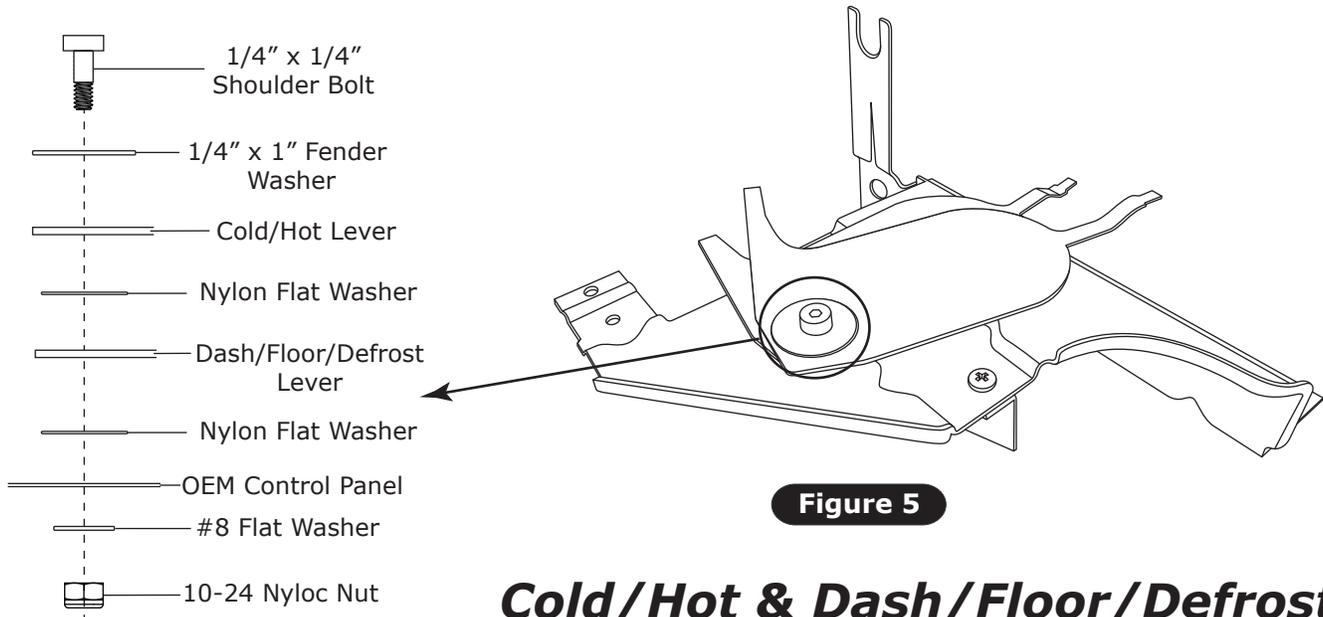

Figure 5
1. Install cold/hot & dash/floor/defrost bracket lever on to OEM control panel as shown in Figure 5, below.